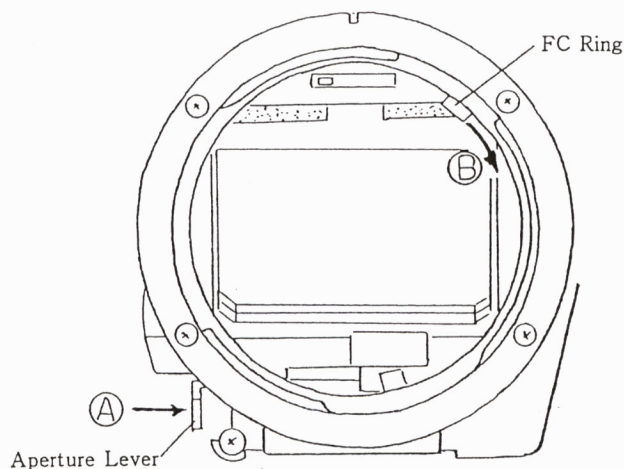

Fig. 105
Check if the FC ring moves smoothly when the Aperture Lever is pushed in direction ① while the FC Ring is turned in the direction of the arrow shown in Fig. 105.